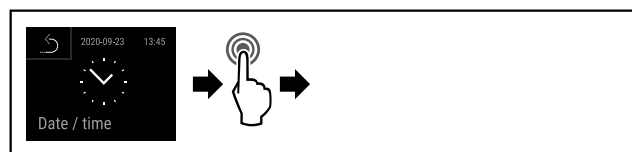

Fig. 85
- ▶ Complete steps (see Fig. 85).